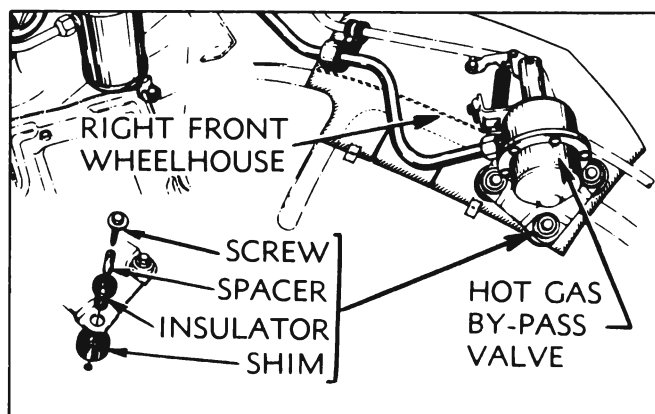

Figure 11-23—Hot Gas By-Pass Valve Installation
4. Remove valve mounting screws, insulators, spacers and shims. Remove valve. See Figure 11-23.